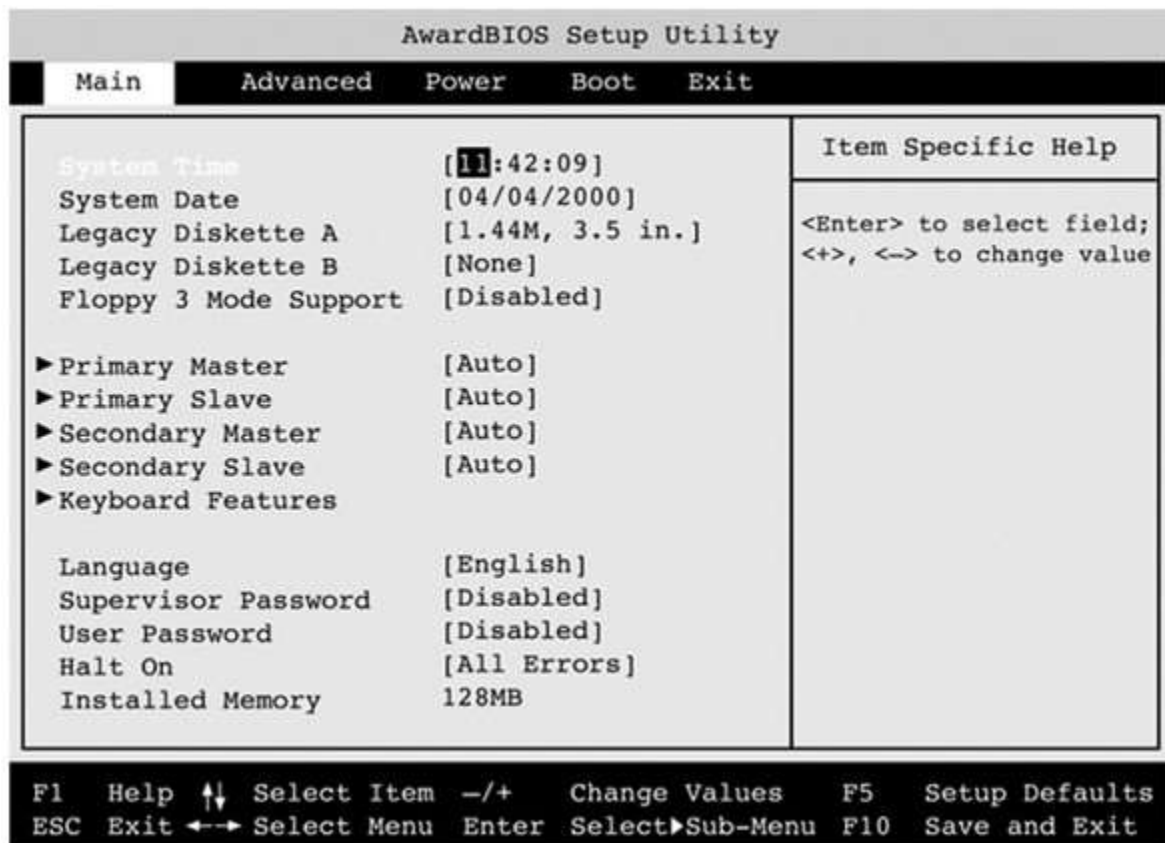

Figure 14
4. Press the appropriate key or keys, a setup screen appears like in Figure 14 below: